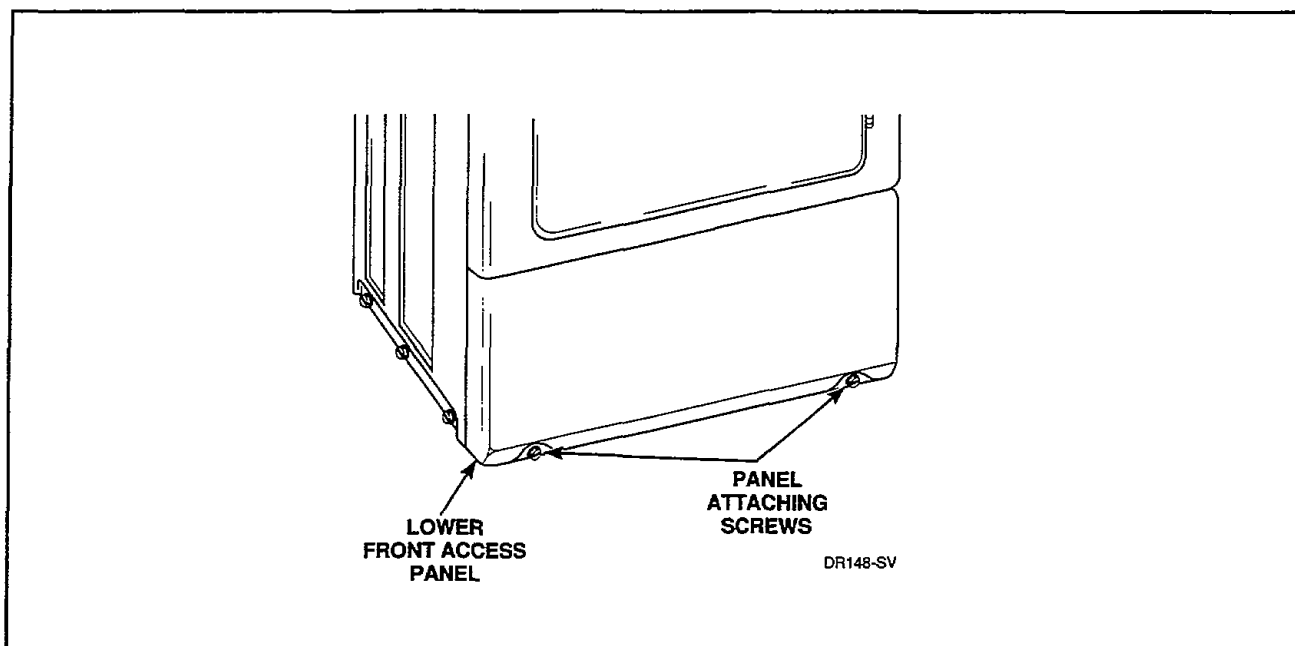

Figure 46
- While supporting the lower access panel, remove two screws from bottom edge of lower access panel, *Figure 46*.